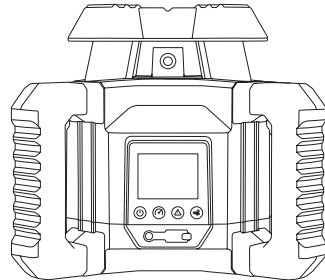

Fig.2
- Place the laser level onto a reasonably level surface (Fig.2)